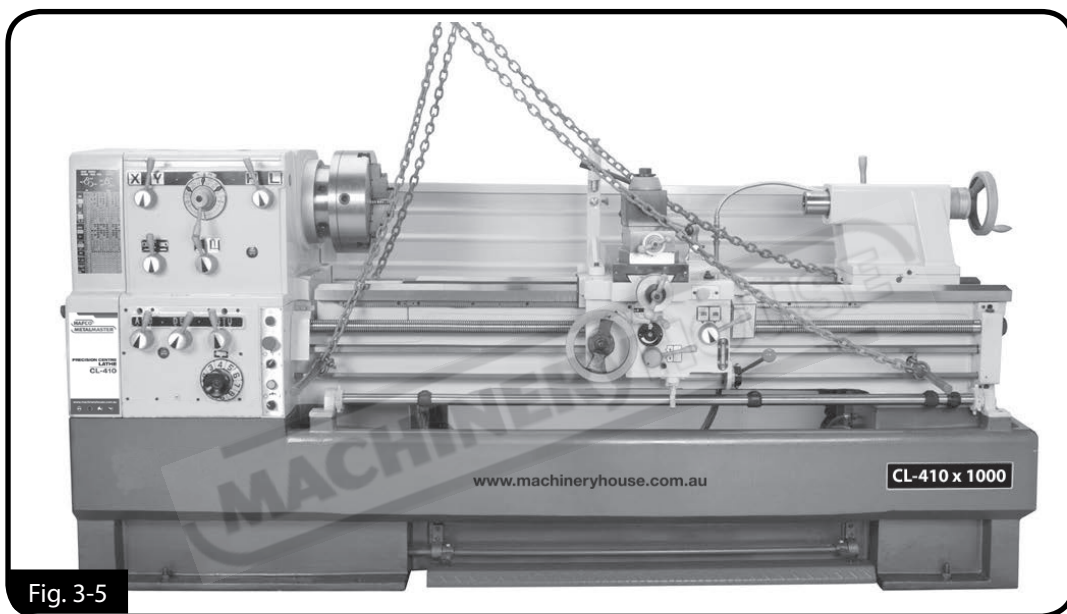
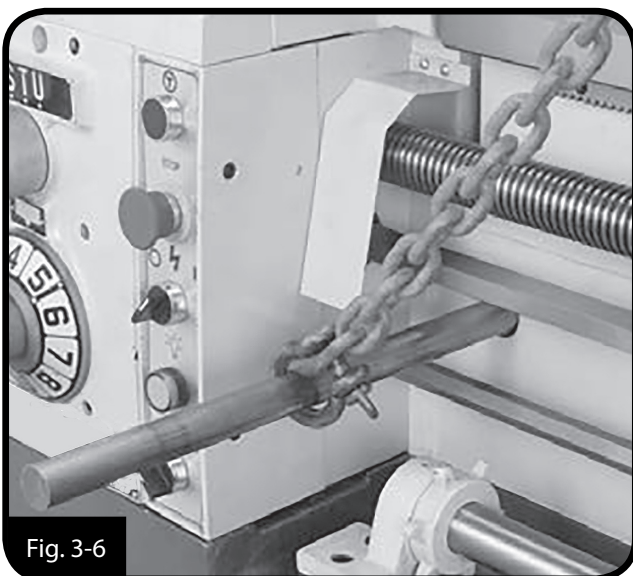

Fig. 3-5
Fig. 3-6
**Note:** Before attempting to move the carriage, make sure the carriage lock is loose, the half nut is disengaged, and the feed selection lever is disengaged. Refer to Page 18 to identify these controls. Prepare two round metal bars (approx. 830mm long x 40mm dia) and insert them into the preserved holes on the lathe bed. (See Fig. 3-5). Using web slings or chains place them around the bars and adjust the length until the lathe when it is raised is level. (see Fig. 3-6).